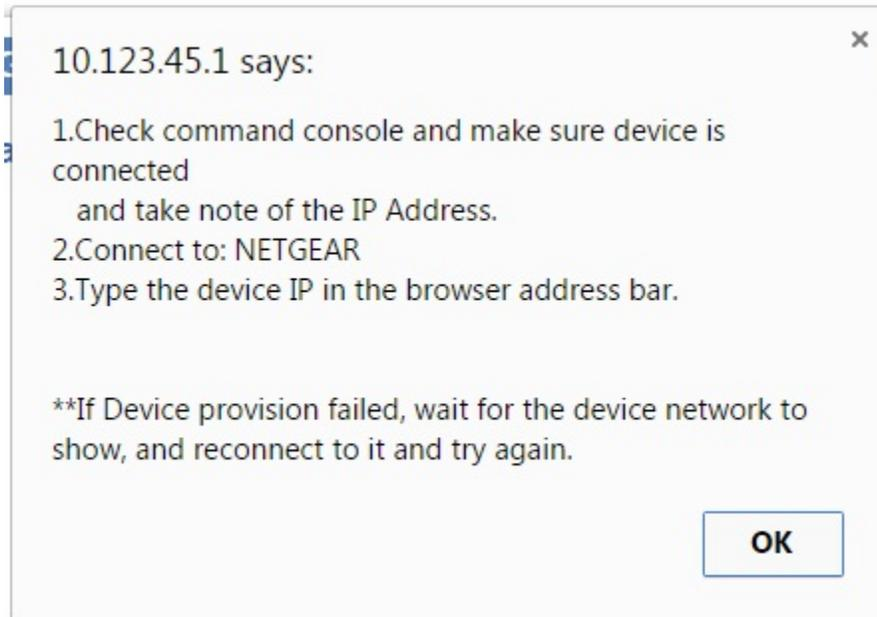

图 76. Pop-up Message
5. Enter the required information for the desired Wi-Fi access point, and click on the *Add* button. A pop-up window with instructions like 图 76 will appear.